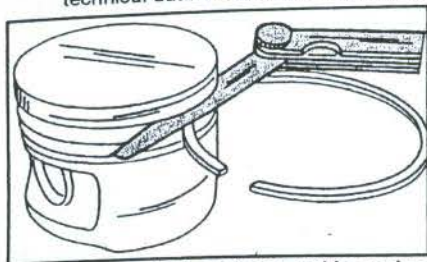

Fig. 1.35 – Checking the side clearance of piston rings.
- Check the side clearance of each piston ring in its groove by inserting the ring together with a feeler gauge, as shown in Fig. 1.35. The grooves must be thoroughly cleaned before the check. If the wear limit exceed the values in the technical data is reached, either the rings or the piston are worn.